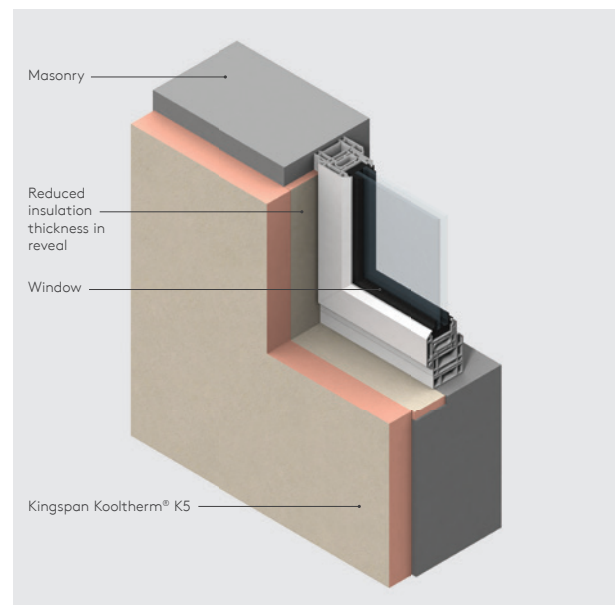

Figure 7
- Reveals should be designed to accommodate the 20 mm of Kingspan Kooltherm® K5 required to achieve an R-value of $0.6 m^2K/W$, and the depth of the cladding system (see Figure 7).
- Care should be taken to install the specified thickness of insulation around reveals (see Figure 7).